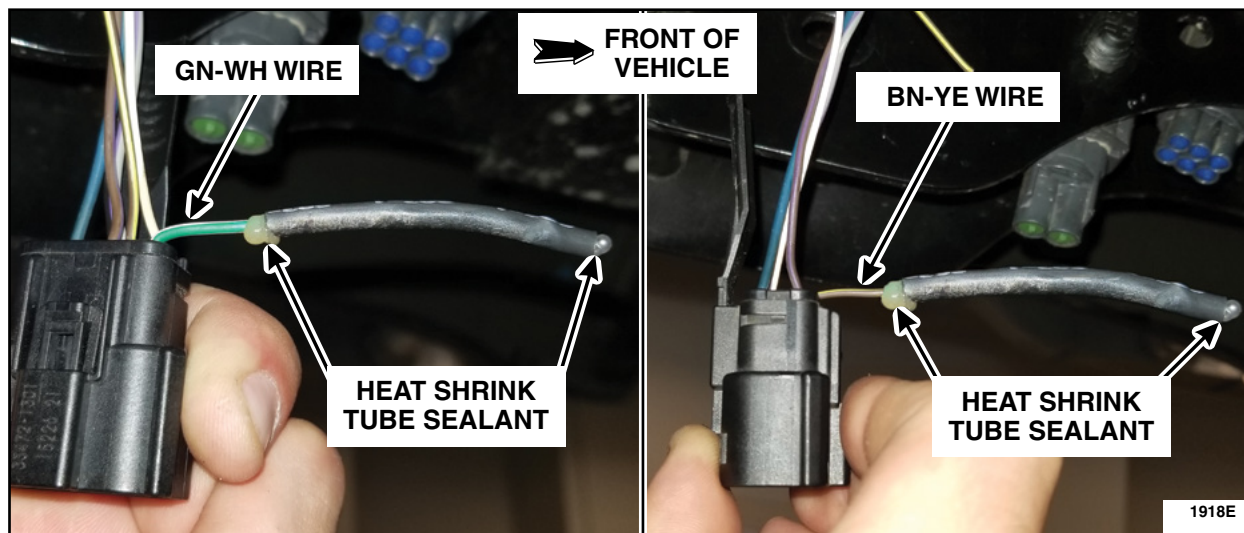

FIGURE 7
10. Install a piece of dual wall heat shrink tube on the GN-WH and BN-YE wires making sure the end of the wire is located in the middle of the tube. Evenly heat up the heat shrink tube until the heat shrink tube sealant bubbles out of both ends. See Figure 7.